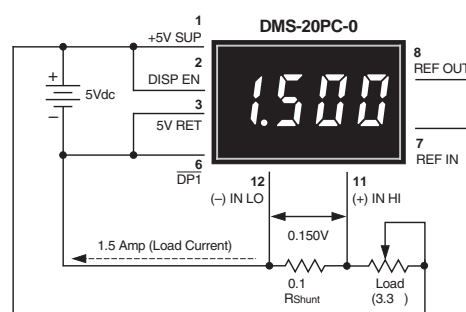

Figure 9. DC Ammeter Circuit
- 7. Digital Ammeter:** Digital ammeters are finding ever-increasing usage because analog-style ammeters (moving-vane types) now cost roughly the same as their digital counterparts. Additionally, analog ammeters are not nearly as rugged as modern digital panel voltmeters. Figure 9 illustrates a typical ammeter application. The circuit uses a ± 200 mV input meter — the preferred range for most ammeters — to measure the voltage developed across a 0.1Ω current shunt. The circuit shown represents a basic ammeter connection diagram. A detailed application note describing digital dc ammeters is included in DATEL's new Digital Panel Meter Databook.